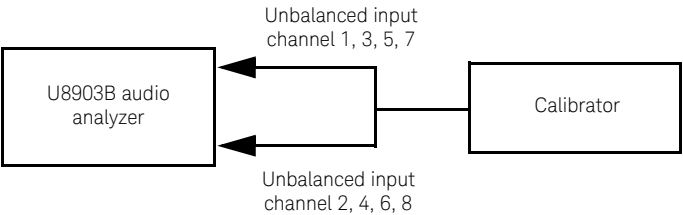

Figure 3-1 Calibrator to U8903B connection for DC accuracy verification
- 1 Connect the calibrator to the U8903B input channel to be tested via the Unbalanced connection as shown in **Figure 3-1**. The BNC-to-banana jack adapter and the BNC male-to-female T splitter is used for this connection. Preset both the U8903B and calibrator.
- 3 Configure the U8903B input channels, channel 1 (3, 5, or 7) and channel 2 (4, 6, or 8) as shown in **Figure 3-1** to be tested as follows: